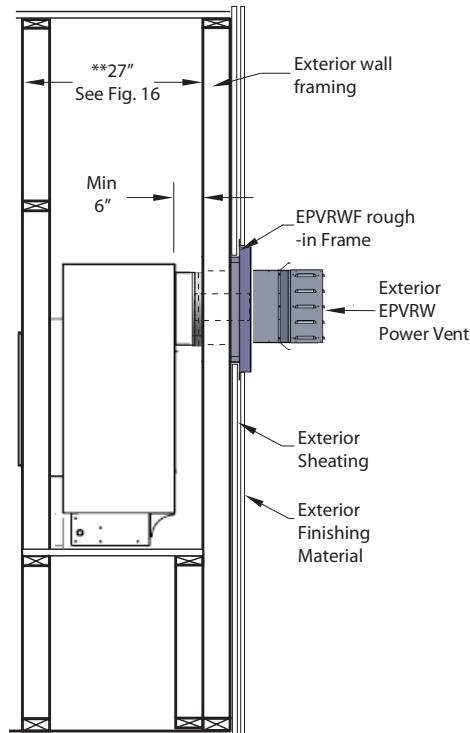

Figure 1a. C-View Residential Rear clearance dimensions.
* See Instructions on **page 4, (figure 1a)**